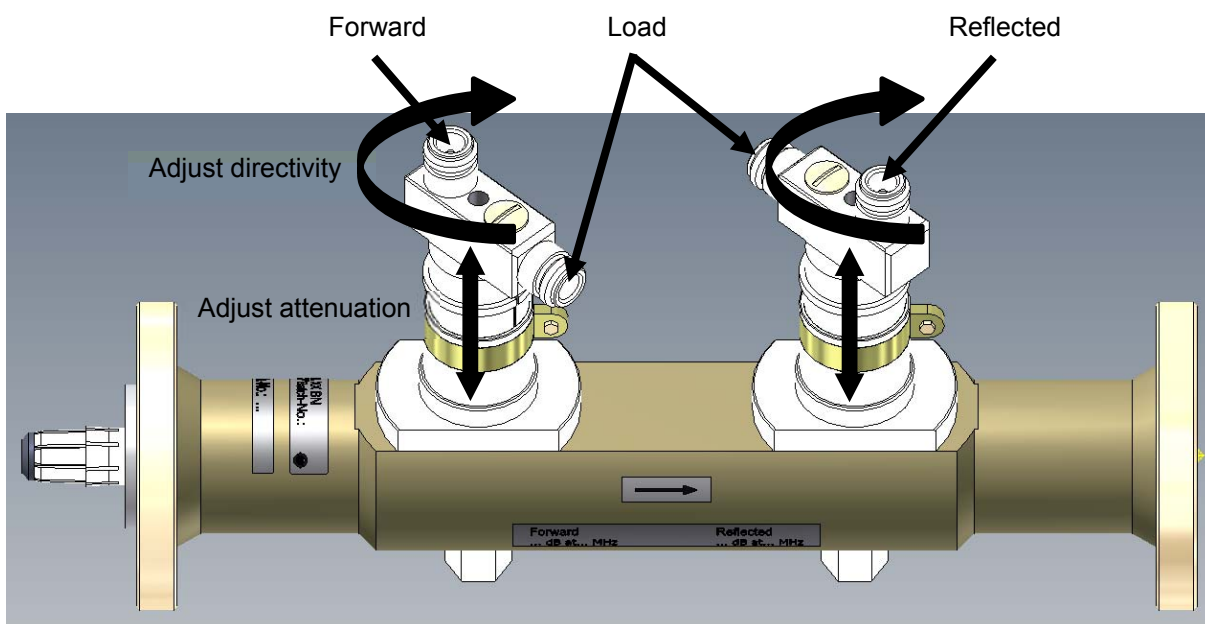
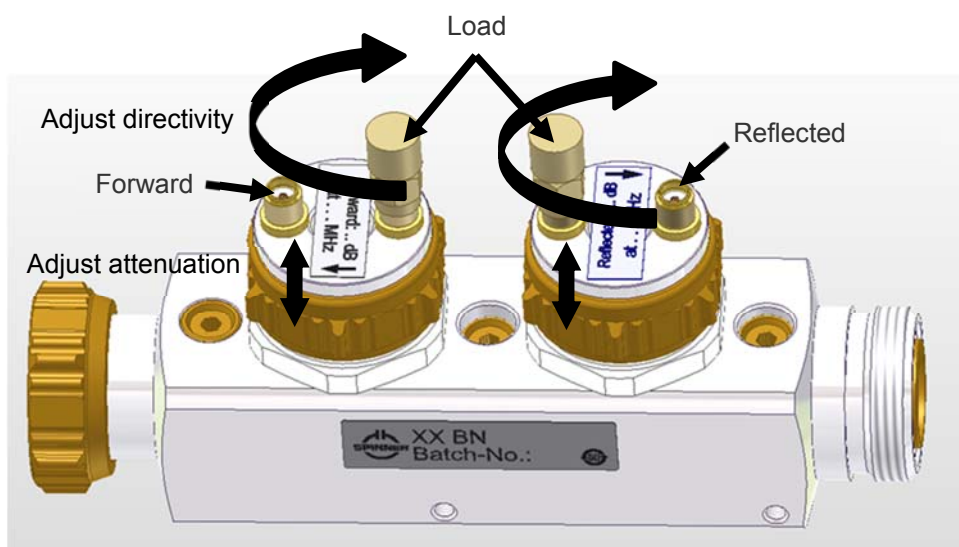

Figure 4: Adjustments exemplary shown for BN 800264
Figure 5: Adjustments exemplary shown for BN 800468
The coupling attenuation must be chosen so that the coupled power does not exceed the permissible power handling of the termination. The adjustment range of the coupling is indicated in the corresponding data sheets. The depth of the coupling loop adjusts the coupling attenuation. Small depth results in a high coupling attenuation (less signal), big depth results in low coupling attenuation (more signal). The directivity is adjusted by rotating the loop. Refer to Figure 4 and Figure 5.
1. First adjust coupling attenuation to the desired value see Figure 4 and/or Figure 5
2. Then adjust directivity see Figure 4 and/or Figure 5